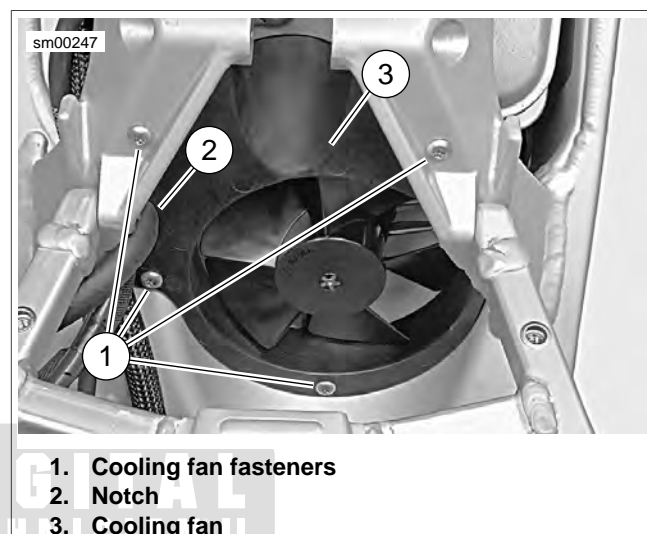

Figure 4-26. Cooling Fan
4. See Figure 4-26. Remove cooling fan fasteners (1).
- See Figure 4-26. When installing cooling fan (3), be sure wiring, transmission vent hose and fuel line are routed through notch (2) in fan body.